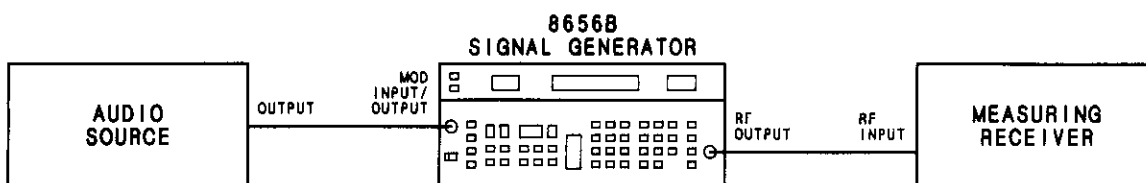

Figure 5-23. FM In-band Gain Adjustment Setup
4. Connect the Signal Generator RF OUTPUT to the measuring receiver INPUT, and the Signal Generator MOD INPUT/OUTPUT to the audio source OUTPUT as shown in Figure 5-23. The Signal Generator LO EXT and HI EXT LED's should be out.